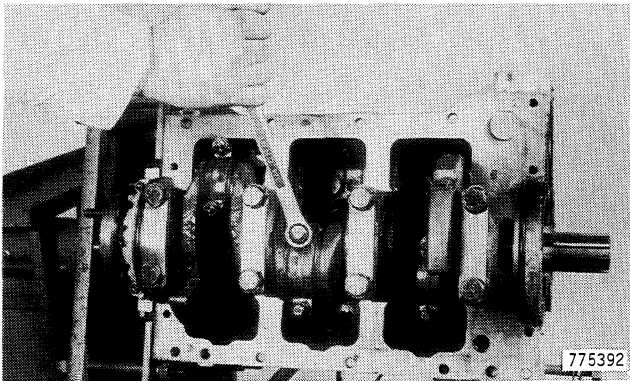

Figure 40
4. Remove the self locking nuts from the connecting rod bearing cap, Figure 40.